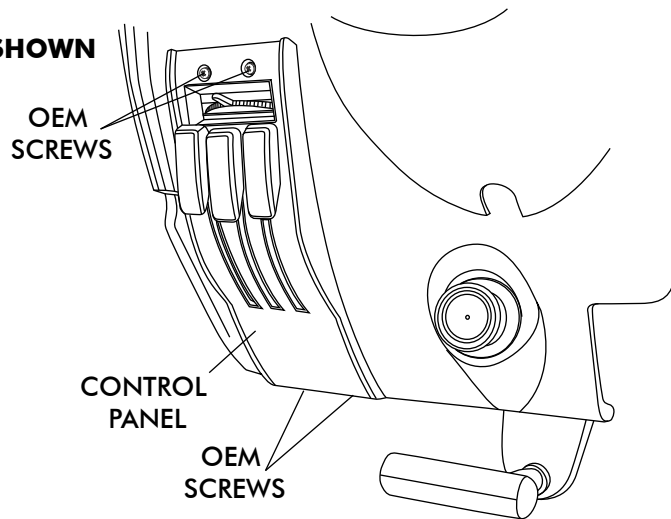

FIGURE 1
- REMOVE (4) OEM MOUNTING SCREWS FROM TOP AND BOTTOM OF CONTROL PANEL (RETAIN SCREWS). SEE FIGURE 1 BELOW.